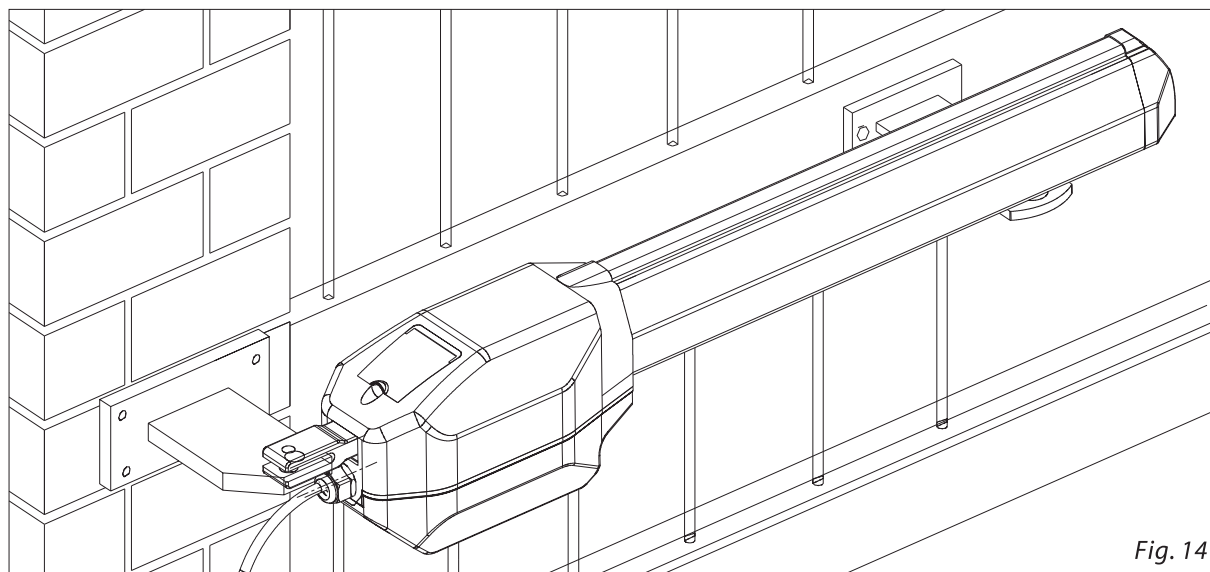

Fig. 14
4) Assemble the front bracket as shown in Fig.14, a hexagonal seat is located in the lower part of the fitting to make the assembling operations easier.